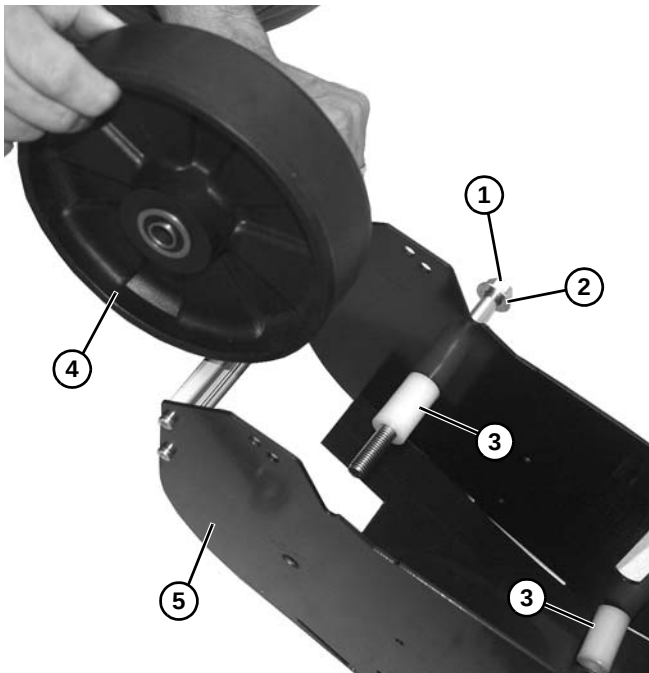

Figure 95
4. Remove bolt (**Figure 95, item 1**), washer (**Figure 95, item 2**), two spacers (**Figure 95, item 3**), and wheel (**Figure 95, item 4**) from take up assembly housing (**Figure 95, item 5**).